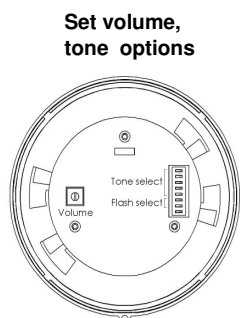

Figure 3
4. Set the Volume & Tone options via Pot & DIP switch shown in Figure 3, in accordance with the setting data on the reverse.